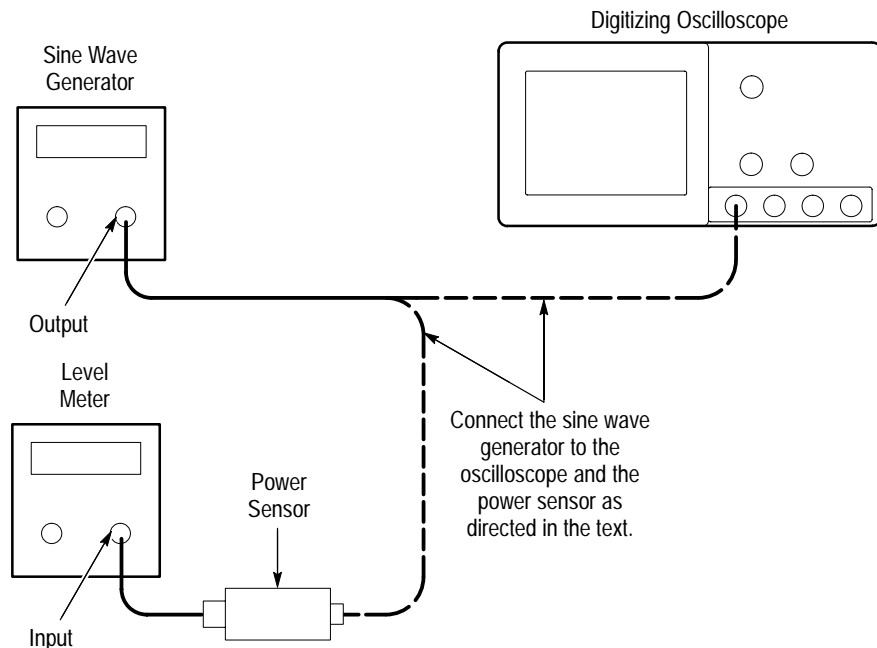

Figure 1–24: Equipment Setup for maximum Amplitude
1. *Install the test hookup:* Connect the equipment as shown in Figure 1–24 (start with the sine wave generator connected to the digitizing oscilloscope).